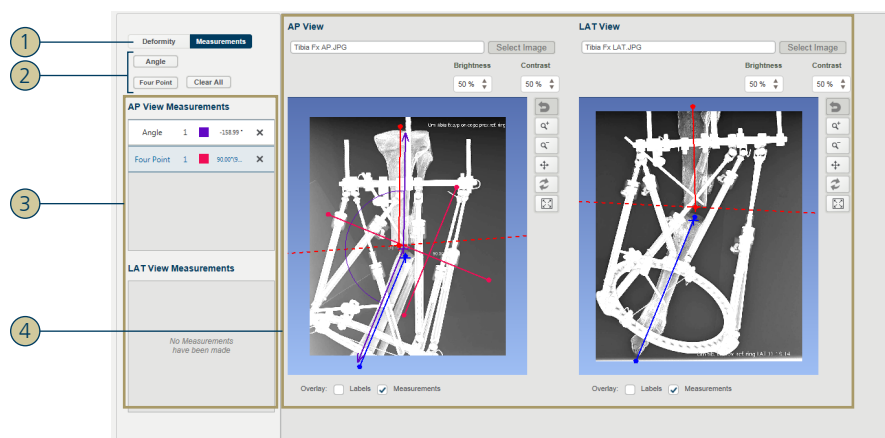

Figure 95 – PFM—Measurements
1. Select the measurement tool (**Angle** or **Four Point**, cf. [2] in figure 95).
1. To modify a measurement, click its entry in the list of measurements (cf. [3] in figure 95 on page 91).
To delete a single measurement, click its **Delete** icon (✕) in the measurement list (cf. [3] in figure 95 on page 91).
To delete all the added measurements in AP and LAT view, click **Clear All** (cf. [2] in figure 95 on page 91).